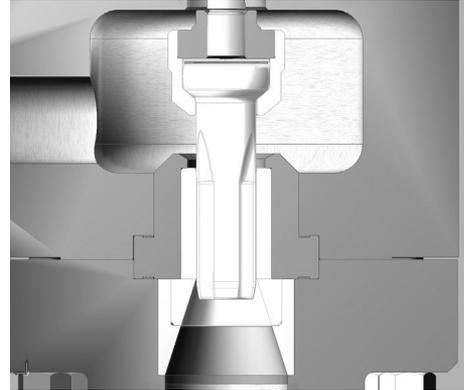

Figure 1: 74000 Series Trim Configuration
2. Remove the body stud nuts (8) from the bottom flange (1) of the valve body. Refer to Figure 1 for reference to valve assembly.